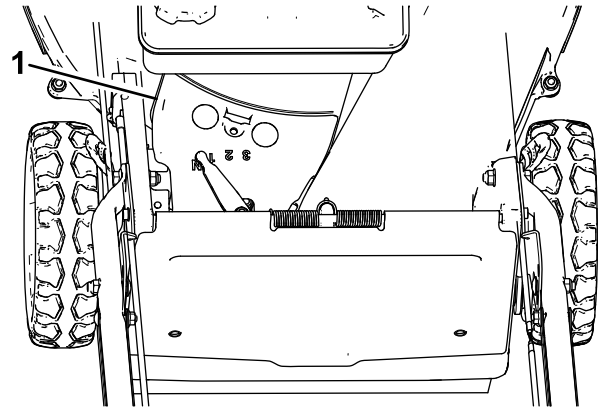

Figure 38
3. Remove the belt cover (Figure 38) from the mower housing.